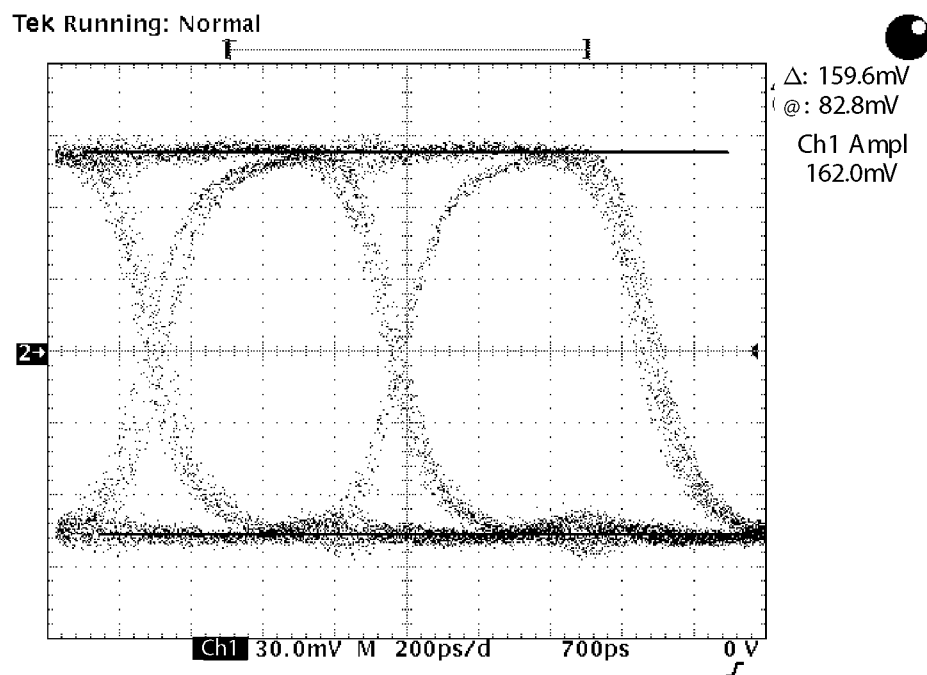

Figure 59: Example of eye pattern for an acceptable output signal
7. Check that SIGNAL 2 eye pattern displayed on the sampling oscilloscope is fully open. (See Figure 59.)
10. Check that BLACK 1 eye pattern displayed on the sampling oscilloscope is fully open. (See Figure 59.)
13. Check that SIGNAL 2 eye pattern displayed on the sampling oscilloscope is fully open. (See Figure 59.)